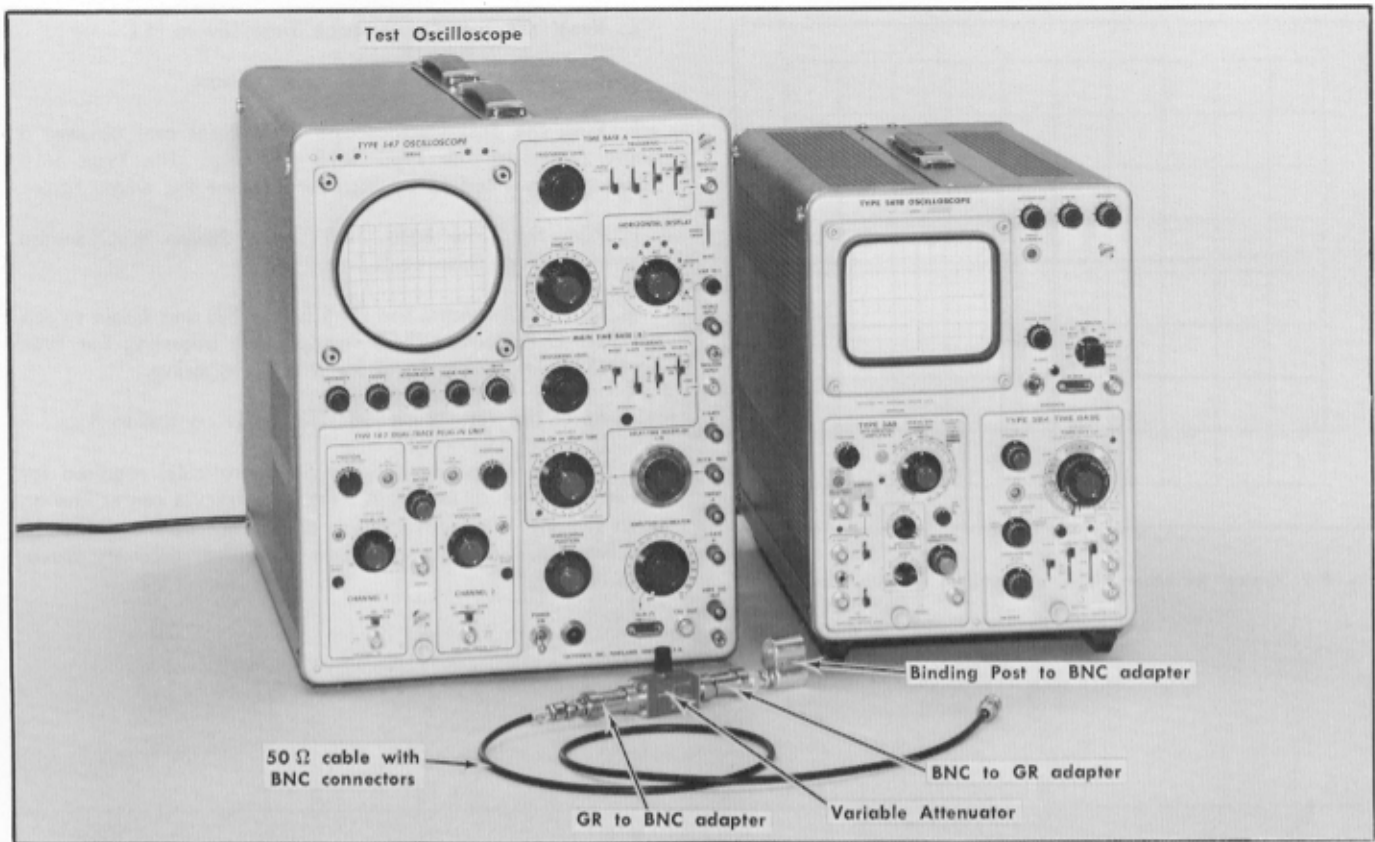

Fig. 5-8. Equipment required for step 10.
- Test equipment is shown in Fig. 5-8.